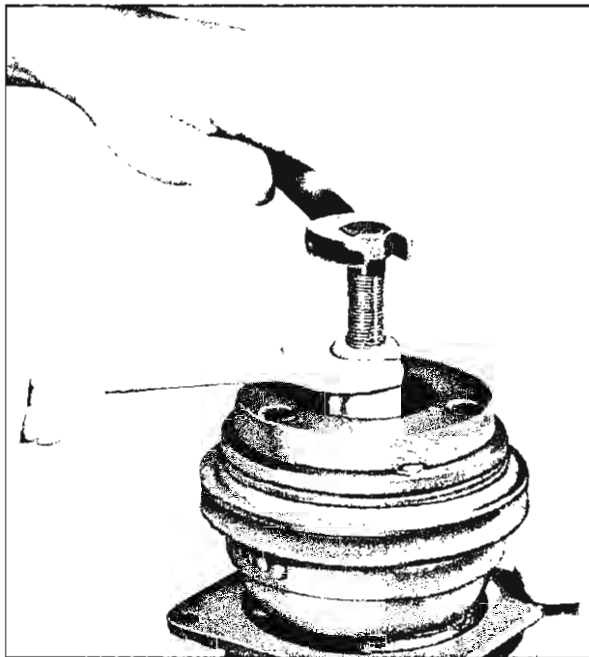

Fig. 18—Installing Hub and Drive Plate Assembly
3. Using Tool J-9480 and washer J-9480-2 (fig. 18), install the hub and drive plate assembly. Pull the assembly onto the shaft until there is approximately $\frac{3}{32}$ " space between the frictional surfaces of the drive plate and pulley. (A ZERO thrust race is approximately $\frac{3}{32}$ " in thickness and may be used to roughly gauge this operation.)